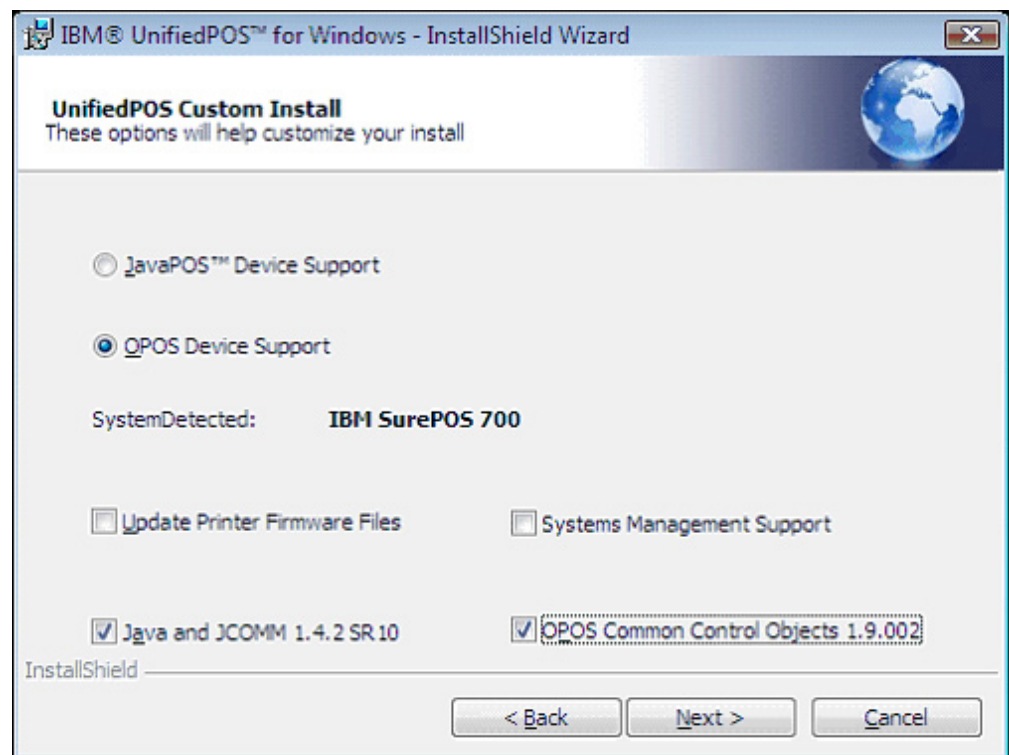

Figure 1. Features dialog
2. In the Features dialog (Figure 1), you can choose either of the following features: